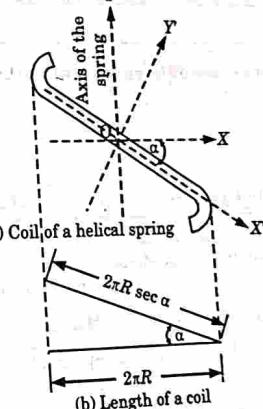

Fig. 5.11.1.
- Let the torque T applied about axis of spring OY' [Fig. 5.11.1(a)] be resolved about OX' and OY' ; Component about OX' , $T' = T \sin \alpha$ Causes torsion of spring Component about OY' , $M' = T \cos \alpha$ Causes bending of coil.